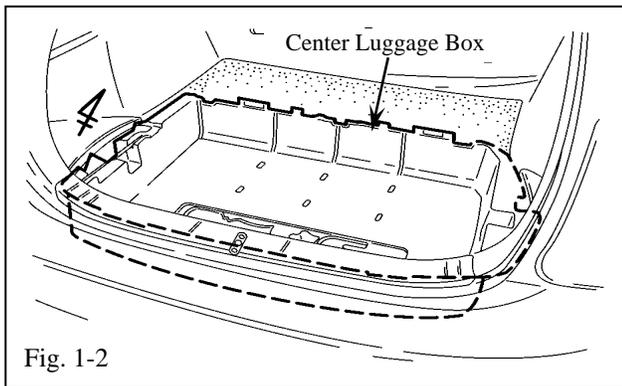

Fig. 1-2
- (b) Remove the center luggage box (deck floor box rear). (Fig. 1-2)